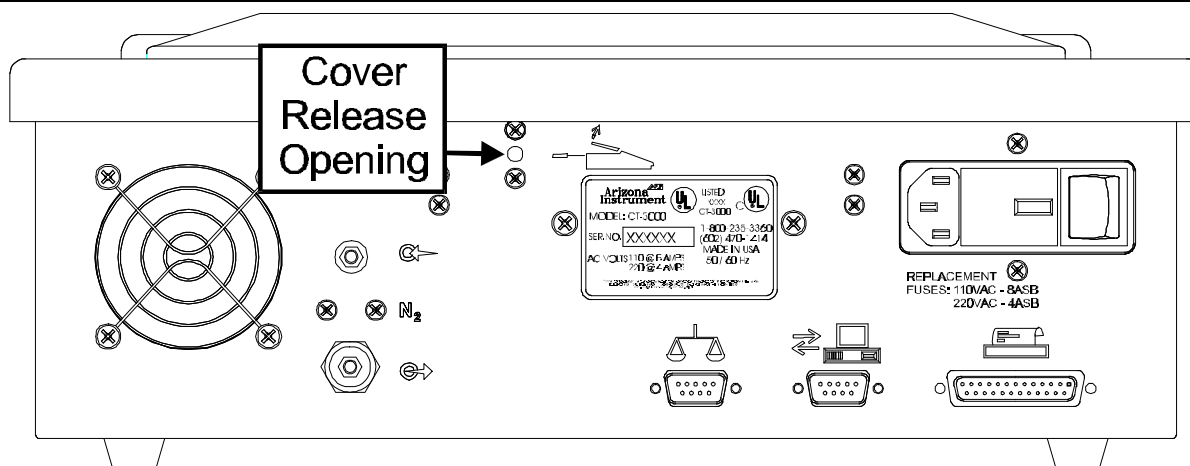

Figure 20 Cover Release Location
- 2 Insert a small probe into the hole at the back of the instrument. It is marked by a graphic symbol indicating the method of opening the top cover, see **Figure 20** on page 38. Push inward to release the safety catch, and lift the top cover up with your free hand. Remove it and put it in a safe place.
- 2 Insert a small probe into the hole at the back of the instrument, (see **Figure 20** on page 38). It is marked by a graphic symbol indicating the method of opening the top cover. Push inward to release the safety catch, and lift the cover up with your free hand. Remove it and put it in a safe place.
8 Insert a small screwdriver or other probe into the latch release hole at the back near the top of the instrument and remove the lid. See **Figure 20** on page 38 for release location. Store the lid in a safe place.